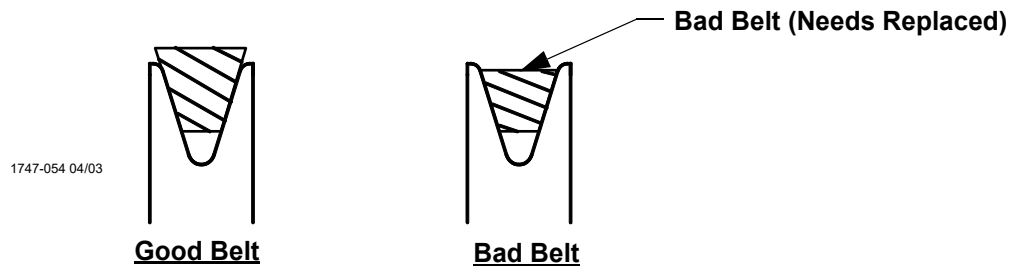

Figure 22. Belt Condition
- Periodically check the V-Belt and replace if necessary. A worn Belt will cause a substantial drop in Fan performance or it can break and cause Fan failure. If a Belt rides below the Sheave edge, replace the belt. (See **Figure 22 below**)